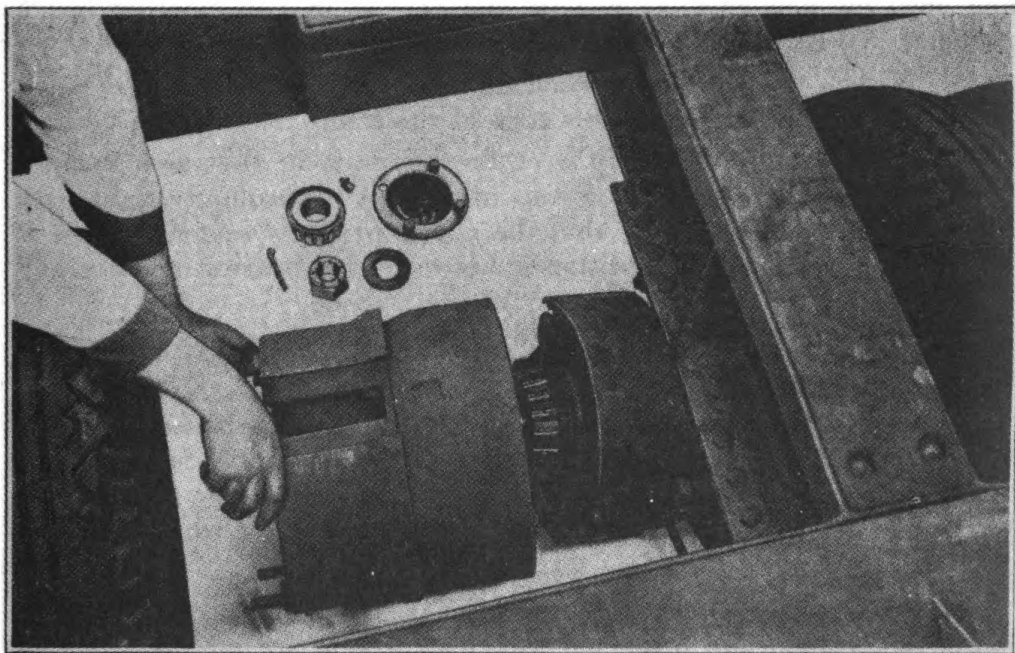

FIGURE 52. REMOVING INNER WHEEL ASSEMBLY—REAR
11. REMOVING INNER WHEEL ASSEMBLY, REAR AXLE.—a. Place jack under trunnion axle. Jack up until wheel clears ground. (Fig. 52.)